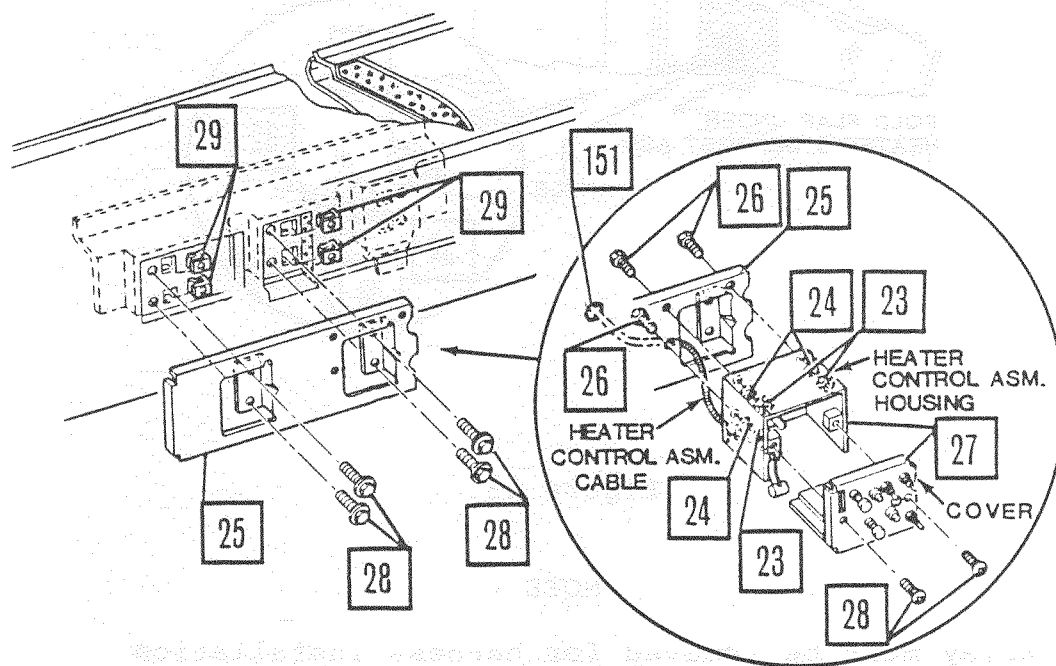

Figure 14.
77. Install spring nuts for heater bracket (Figure 14.).
80. Install heater control bracket to padded dash panel (Figure 14.). Tighten to 50-65 lb.-in. (6.0-8.0 Nm).
81. Remove two screws on heater control assembly and remove cover (Figure 14.).
82. Feed control cable through bracket and 21/32 inch hole in firewall, and secure heater control assembly to bracket with screw, nuts and washers, and install grommet (Figure 14.).
83. Install cover on heater control assembly (Figure 14.). Tighten to 8-15 lb.-in. (1.0-2.0 Nm).
87. From under hood, route engine air heater wiring harness assembly and attach wires through hole in firewall, leaving tee connection outside firewall (approximately 5 inches from hole) and install grommet (Figure 14.).